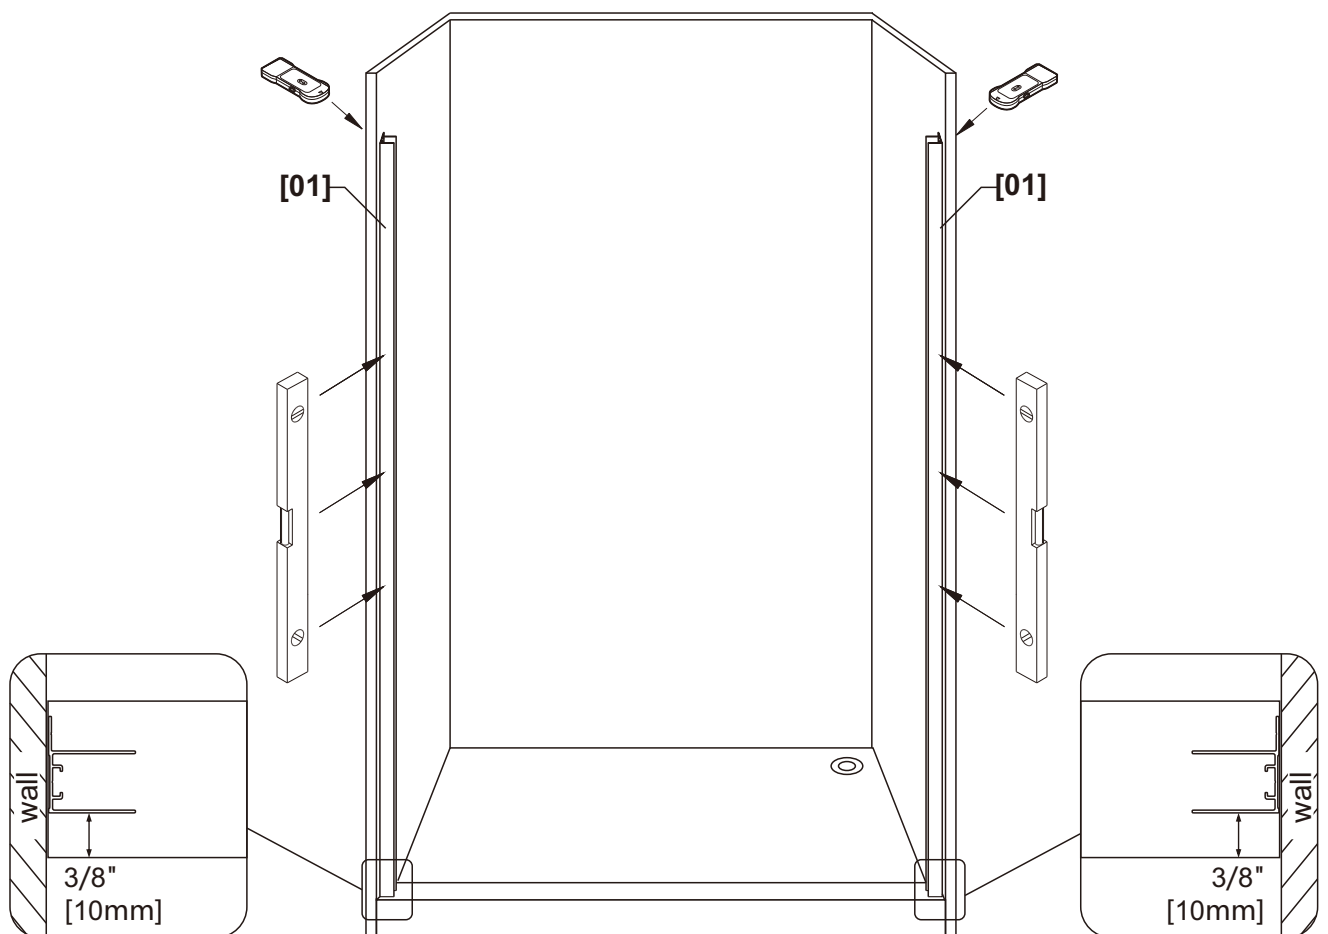

Fig 1
IMPORTANT: Using a stud finder, ensure the wall intended to hold the door has a stud at the installation point. If there is no stud in the shown area, we recommend employing a qualified contractor to install one. (Fig 1)
2. Using a level, position the **Wall Post [01]** on the threshold. (Fig 1)